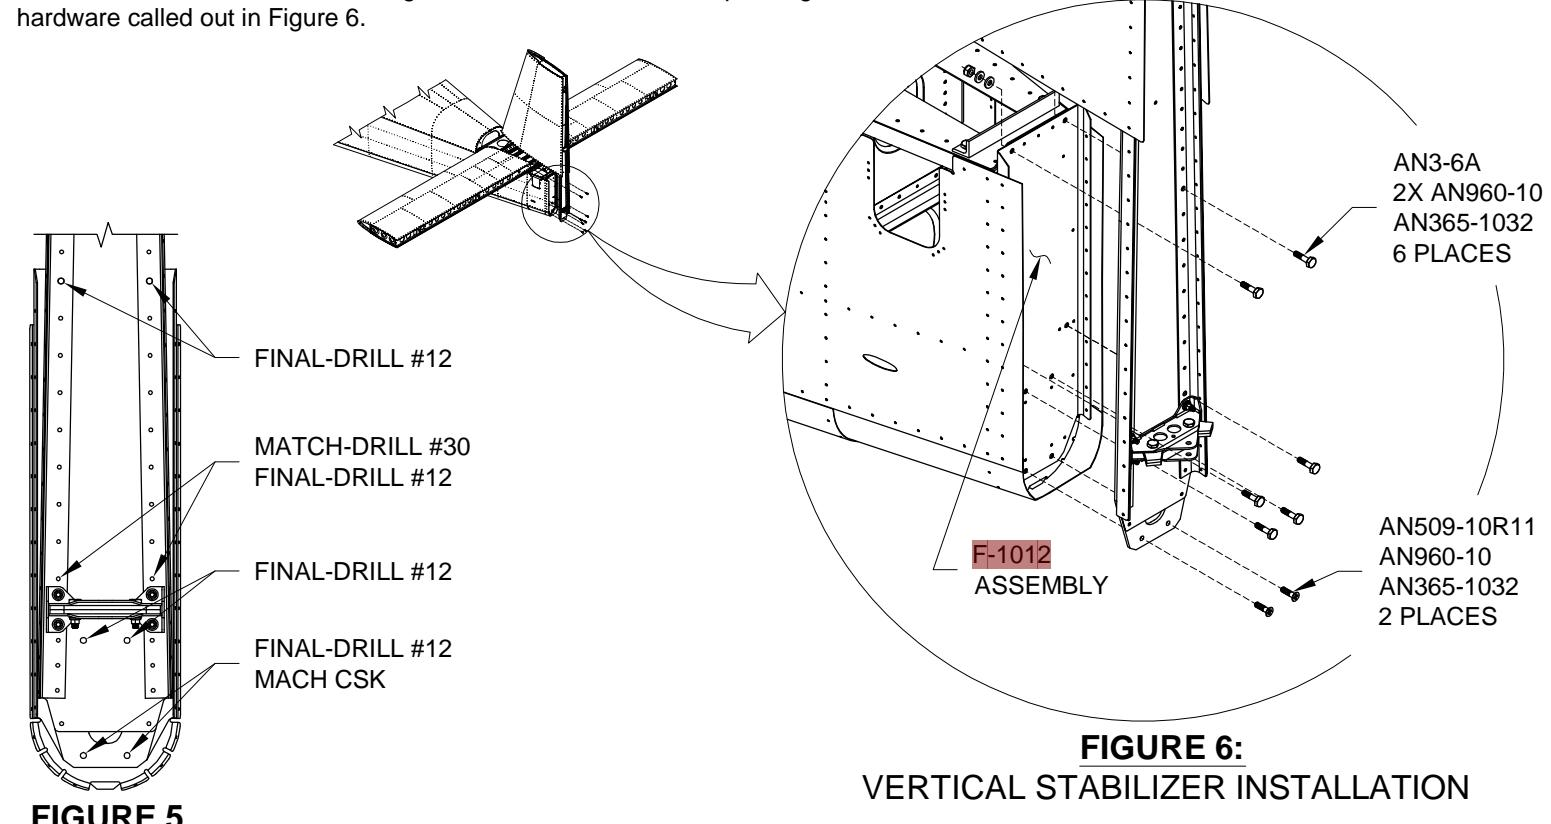

FIGURE 5:
Step 5: Final-Drill #12 the top two 3/16 holes in the rear spar doubler as shown in Figure 5. Bolt the vertical stabilizer to the F-1012 Aft Fuselage Bulkhead Assembly using the upper two AN3 bolts called out in Figure 6. Final-Drill #12 the four remaining 3/16 holes as shown in Figure 5, then machine countersink the two bottom holes. Install the hardware shown in Figure 6. Match-Drill #30 and final-drill #12 where called out in Figure 5, then install the corresponding hardware called out in Figure 6.